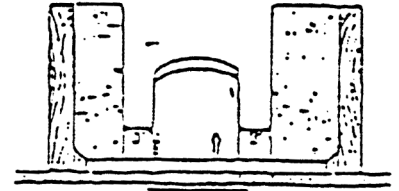

FIGURE 1
1. Install hanger bars to fixture. Be sure end tabs are facing outward (Fig. 1).